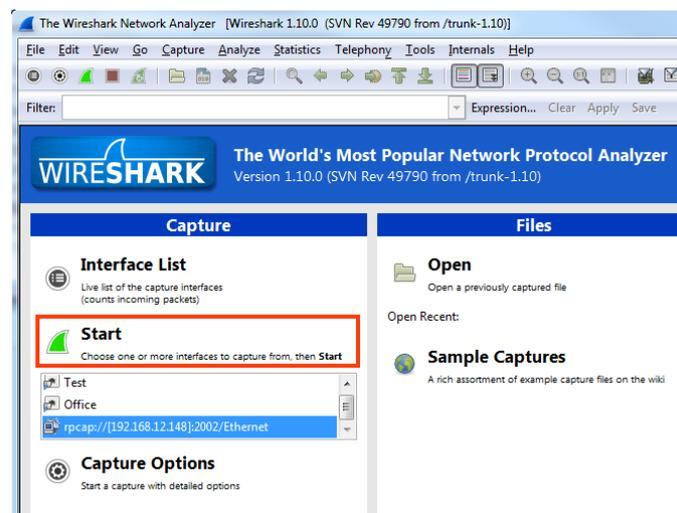

Figure 59: Start Remote Capture in Wireshark.
- Click the **Start** button as shown in Figure 59.